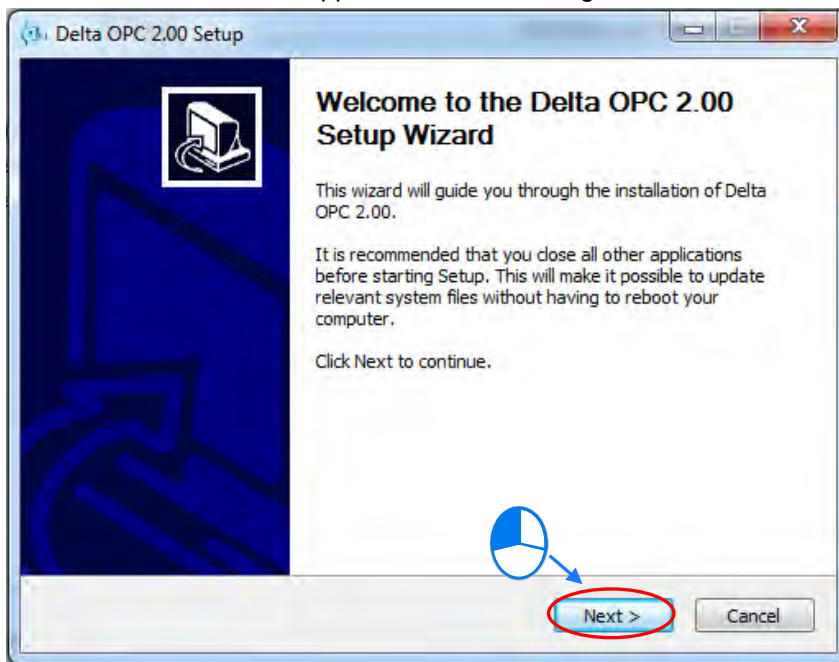

Figure 1-2 Installation window
(2) Click **Next** in the installation window appears, as shown in figure 1-2.